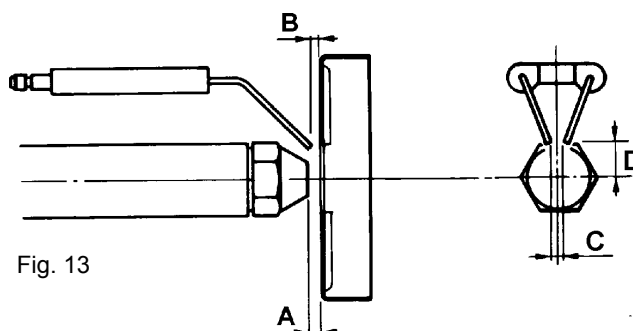

Fig. 13
- Examine the ignition electrodes and their ceramic insulators, adjust and replace if necessary (fig. 13);